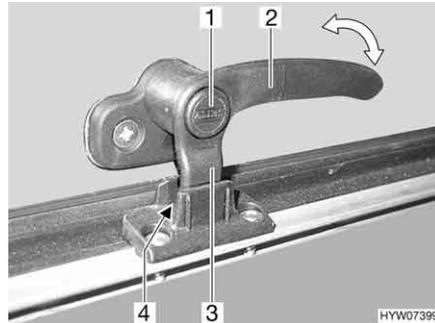
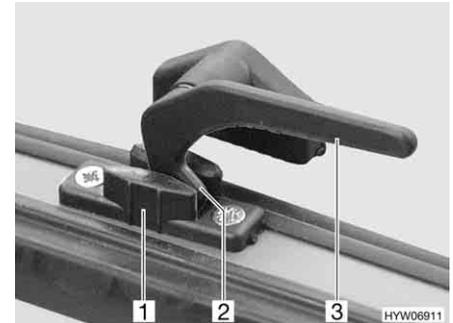

Fig. 71 Catch lever with safety knob in "continuous ventilation" position
Fig. 72 Catch lever in the "continuous ventilation" position
- "Continuous ventilation" (Fig. 71 and Fig. 72)
- Press and hold the security button (Fig. 71,1), if present.
- Turn the catch lever (Fig. 71,2 or Fig. 72,3) a quarter turn towards the centre of the window.
- Return the catch lever to its initial position. Move the locking catch (Fig. 71,3 or Fig. 72,2) on the catch lever into the recess of the window catch (Fig. 71,4 or Fig. 72,1).